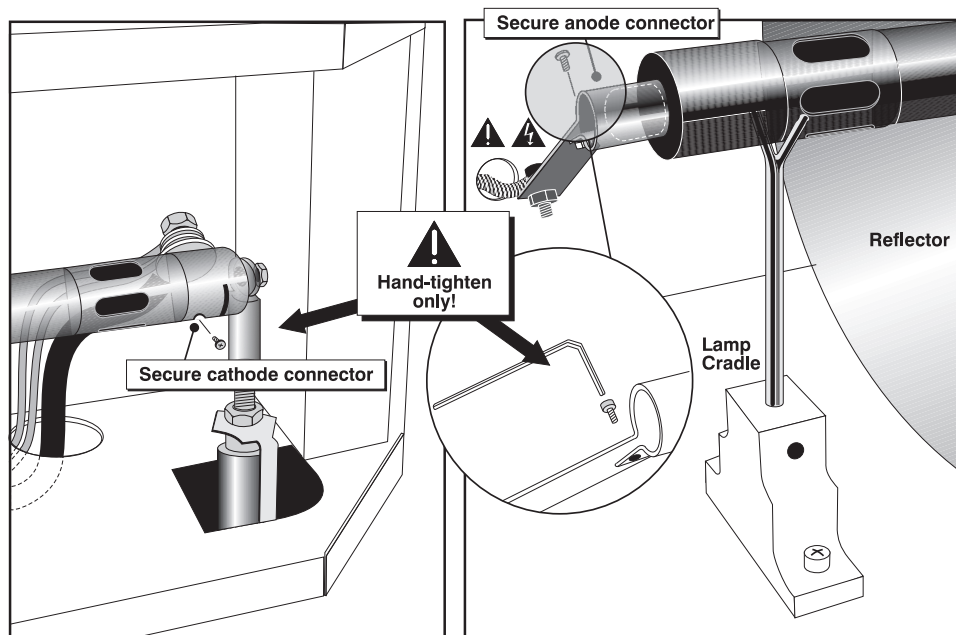

Figure 6.2. Secure bulb at cathode (-) and anode (+) connectors
Loosen set screws from negative/cathode (rear, 7/64”) and positive/anode (front, 3/16”) lamp connectors. These screws are shown in Figure 6.2. **Make sure to apply minimal torque and DO NOT STRESS the quartz tube.**
8.3 Tighten setscrews in both negative and positive lamp connectors (Figure 6.2).